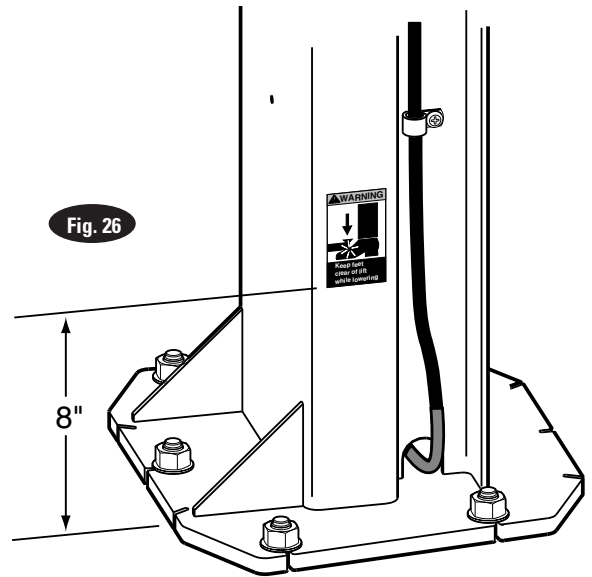

Fig. 26
**23. Pinch Point Decal Location:** Install enclosed pinch point decals. Place (1) decal on each column, Fig. 26. Decals should be a minimum of 8" from the bottom of decal to the ground.